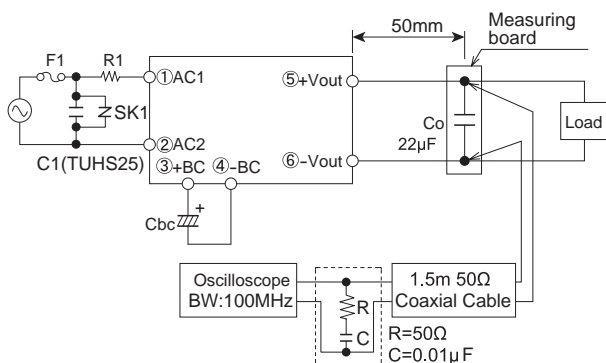

Fig 3.11 Method of Measuring Output Ripple and Ripple noise
■ The specified ripple and ripple noise are measured by the method introduced in Fig.3.11.